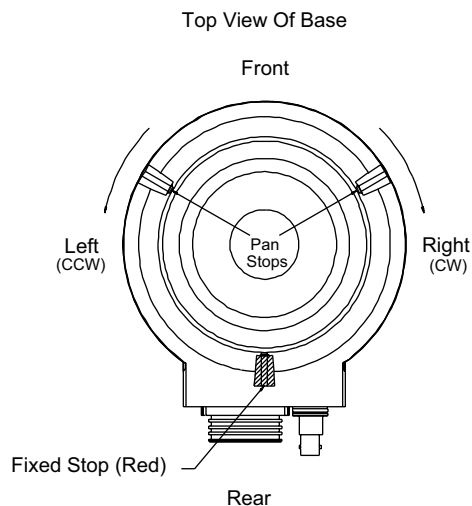

Figure 3: Pan Stop Locations (345° Models)
The two (2) pan stops are adjustable and secured with a set screw. The screws can be accessed through the hole in the end of each stop. Use a 3/32-inch Allen wrench (supplied) to loosen and tighten the set screw. See **Figure 3: Pan Stop Locations (345° Models)**.